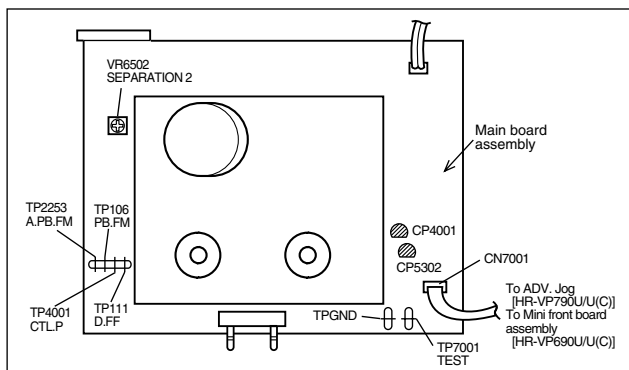

Fig. 1-4-1a
- (1) Refer to the disassembly procedure and perform the disassembly of the major parts before removing the Drum assembly.
- (2) Lower the cassette holder to prepare for the removal of the Mechanism assembly screws. (Refer to the "Procedures for lowering the Cassette holder assembly" of 1.3 Disassembly/assembly method.)
- (3) Remove the combined Mechanism and Main board assemblies.
- (4) Connect the wires and connectors of the major parts that have been removed in step (1). (Refer to Fig.1-4-1a.)
- (5) Place the combined Mechanism and Main board assemblies upside down.
- (6) Insert the power cord plug into the power outlet and then proceed with the diagnostics and servicing of the board assembly.